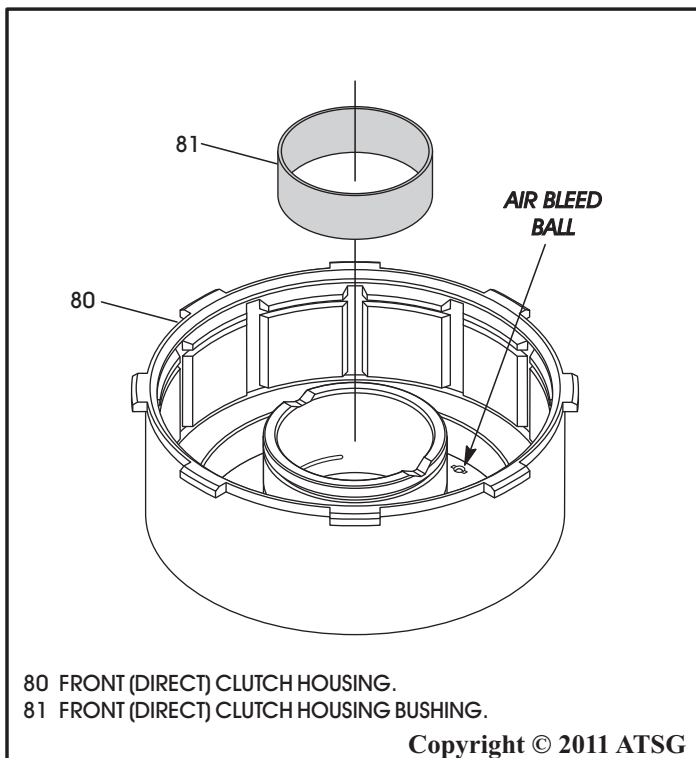

Figure 113
4. Install new bushing in direct clutch housing, as shown in Figure 113, using the proper driver.